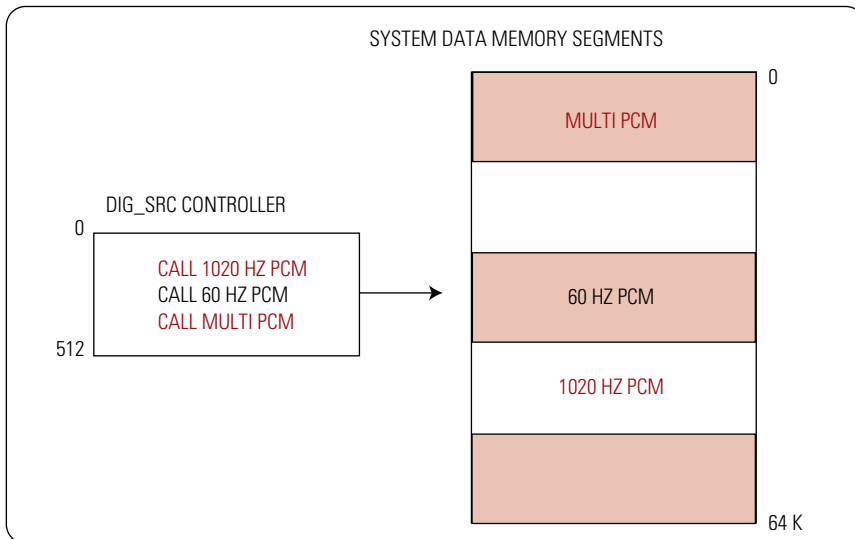

Figure 49
MultiSource data mixing differentiates the A585/A575/A565 digital capability from VLSI capability and redefines the digital capability as Analog VLSI (AVLSI). See figure 49. Digital signal I/O has three specific functions: a source memory (Smem), a capture memory (dig_cap), and a digital signal controller.
of the memory as possible. Data can be extracted from either the Smem or the standard data pattern memory with an on-the-fly per pin switch operating at 50 MHz. The waveform (W) pin state code, provides the control for selecting the data memory. Components such as ISDN devices require the ability to mix digital signal data representing voice information with pattern data representing framing information and computer data on the same pin in real time. The dig_src contains its own controller that can generate complex waveforms with a series of waveform segments. See figure 49. The controller can REPEAT waveform samples and LOOP on waveform segments and subroutine waveform segments.